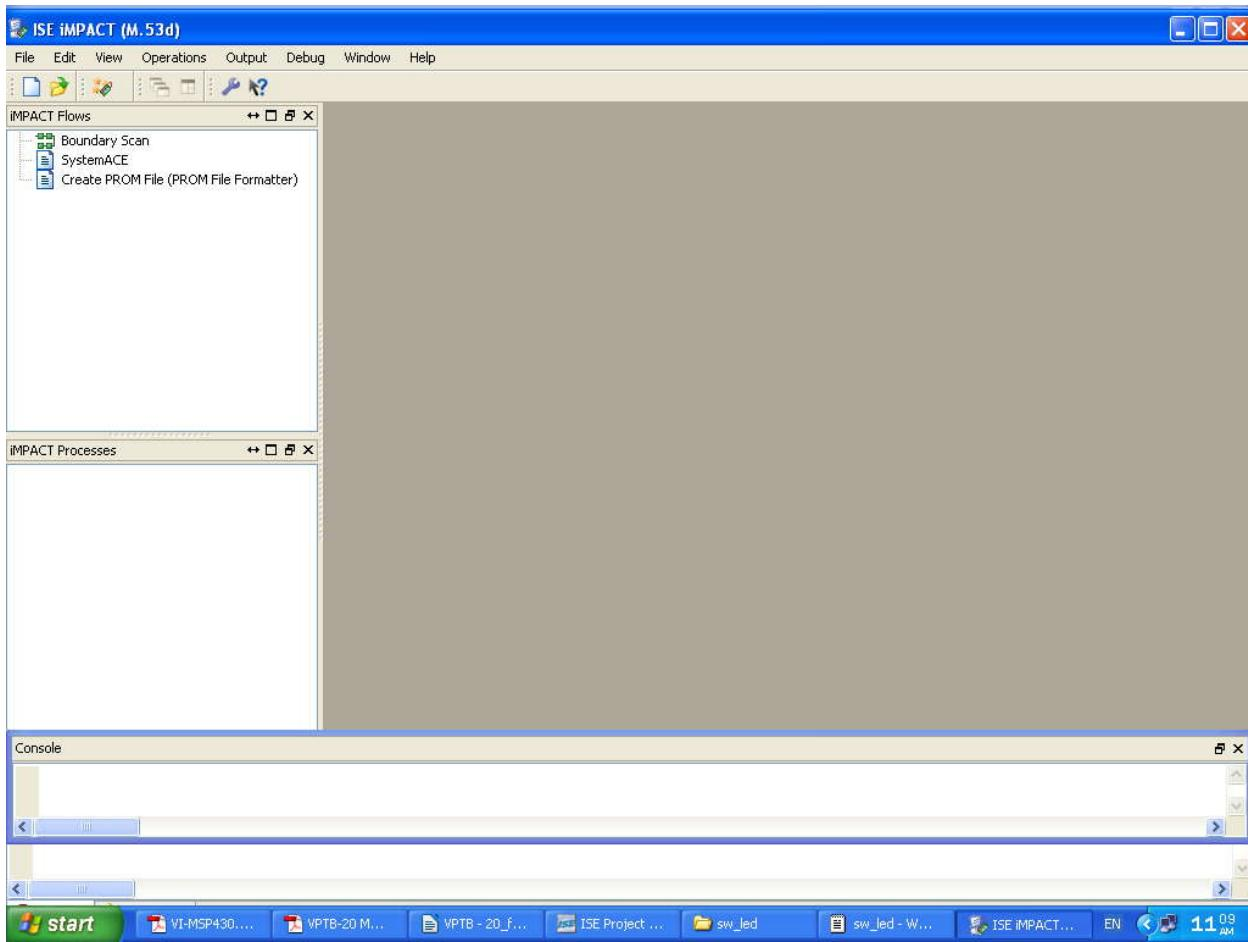

Figure-32
13. Now one new impact window will open. (Refer figure- 32)